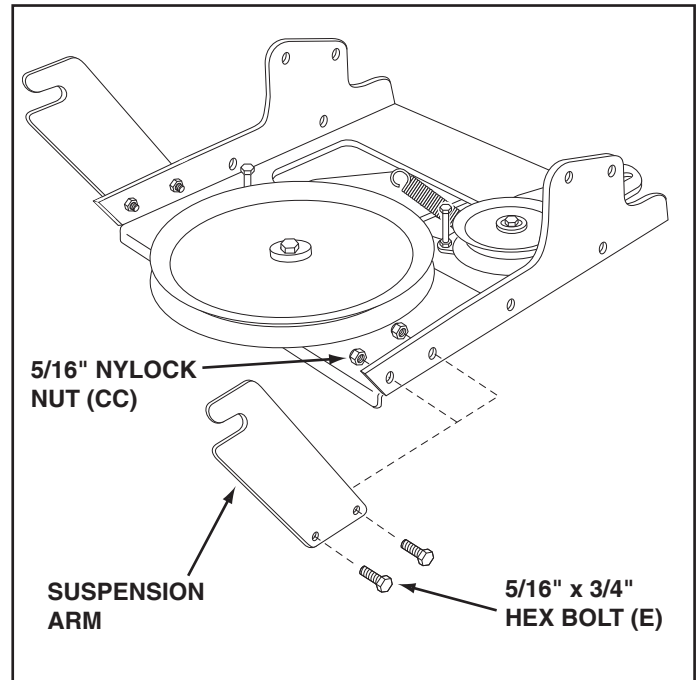

**FIGURE 13 RIGHT SIDE VIEW**
**STEP 13 (SEE FIGURE 13)**
- Assemble a shoulder bolt (P) and a 3/8" flanged nut (BB) (both supplied with the snow thrower) to the frame bracket.